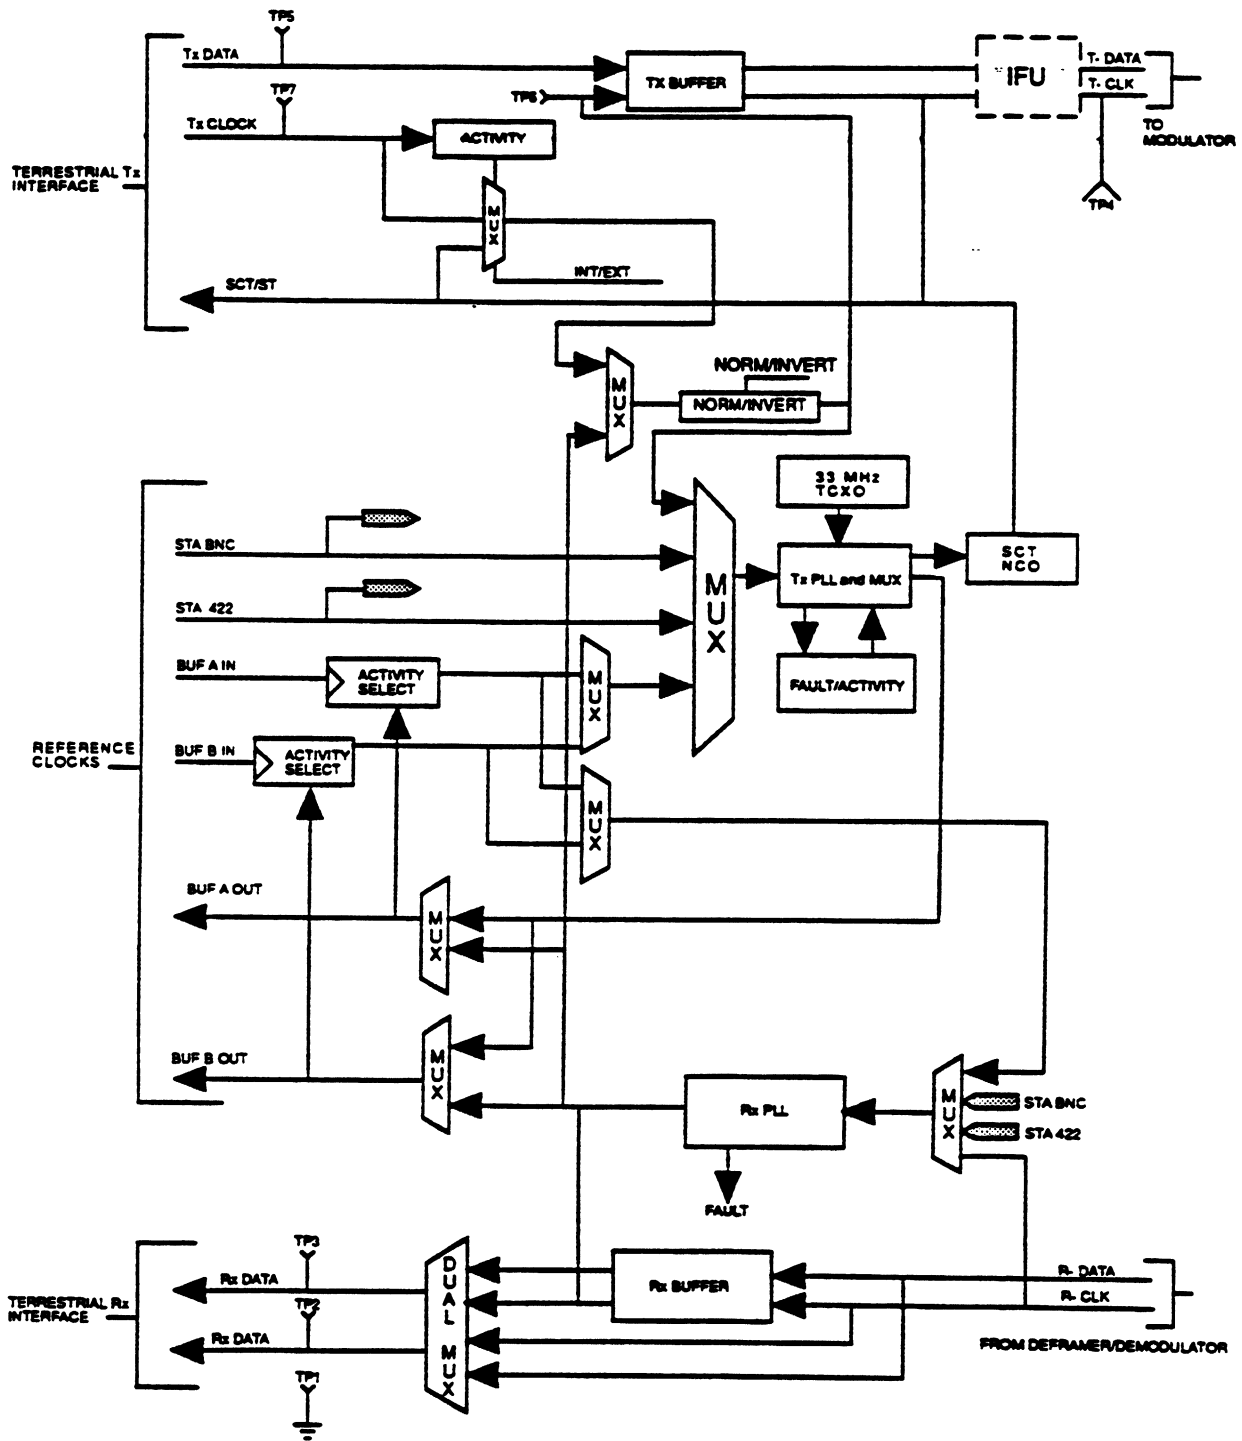

Figure 3-3. Clock Options Diagram
3.6 Tx and Rx CLOCK OPTIONS (Figure 3-3)
of the modem in applications that previously required special modifications to the hardware or additional equipment. During the option additions a conscious effort was made to have as little impact on those already familiar with the clocking of the SM290. From the Host interface all options still go by the same option number as the SM290. There are subtle differences, however, which may have impact on the user's system. Be sure to read the option description you are using if this unit is replacing an SM290. For consistency, accessing the options from the front panel has been set up to use the same option numbers as the Host interface. A summary of each option is provided at the display by a HELP key in case the user is not in reach of a manual. Transmit and receive each have seven options available. The options presented below and illustrated in Figure 3-3 are accessed from the display menus or the remote serial communication port.